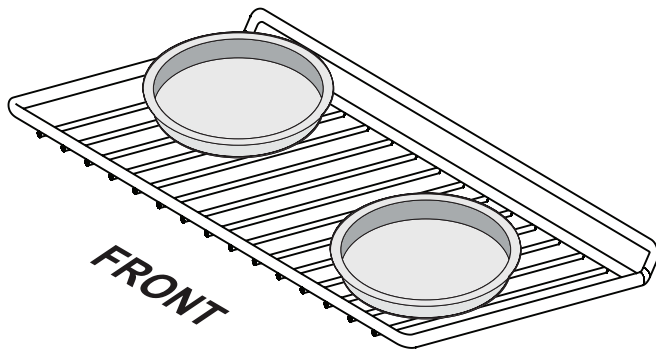

Figure 12: Baking with a single rack
- When baking using one oven racks, position bakeware as shown in Figure 12. Allow at least 2 inches (5 cm) of space between bakeware for proper air circulation. control knob to OFF position.